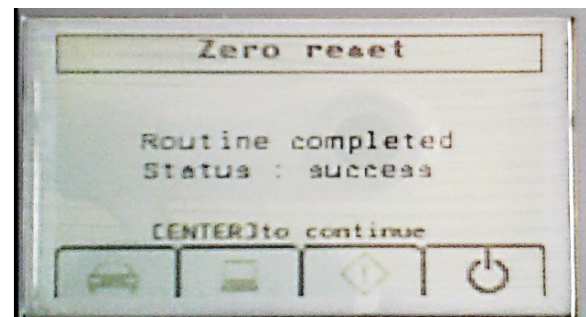

Figure A16
- The screen in Figure A16 will display when zero point reset is complete.